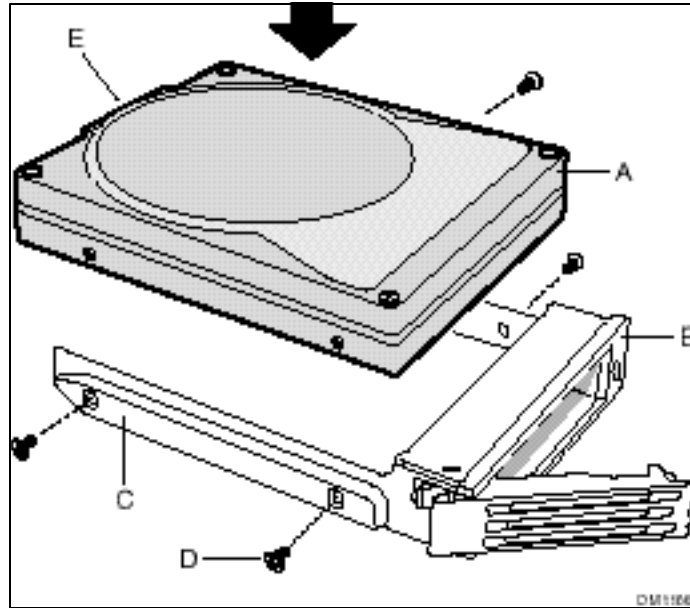

Figure 21. Attaching the Drive to the Carrier
7. With the drive circuit-side-down (Figure 21, A), position the connector end (E) so that it is facing the back of the carrier (B).
8. Align the holes in the drive to the holes in the drive carrier slide track (C), insert the screws (D) that you previously removed, and attach the carrier to the drive.